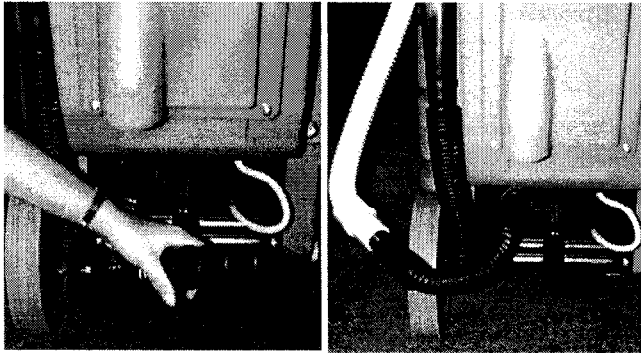

FIG. 3.
2. Disconnect exhaust hose and attach accessory tool vacuum hose Figure 3.